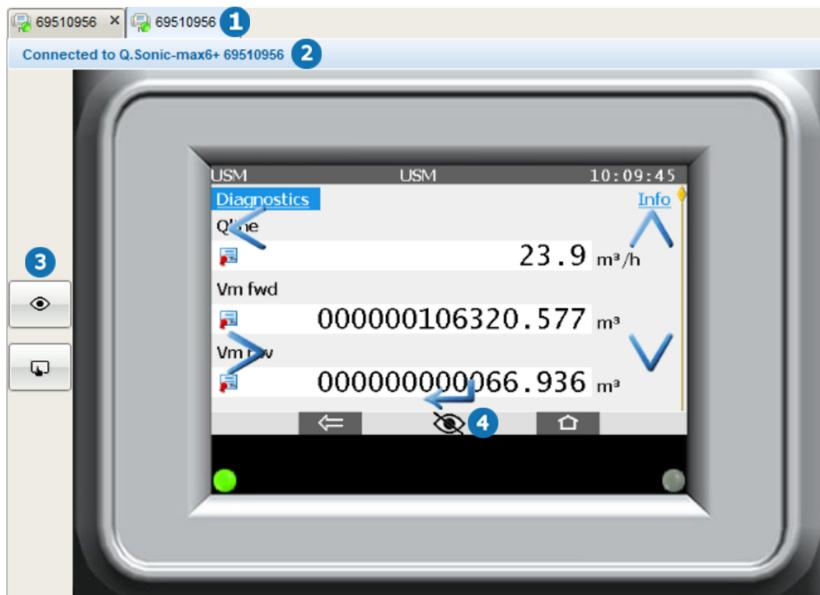

Fig. 5-10: Remote operation panel tab
- As soon as you open the remote operation panel, the local display shows a lock screen, hiding your operation from users looking at the device. In enSuite you can grant the view or even the operation control to the local user at the device. (⇒ Fig. 5-10, p. 57)